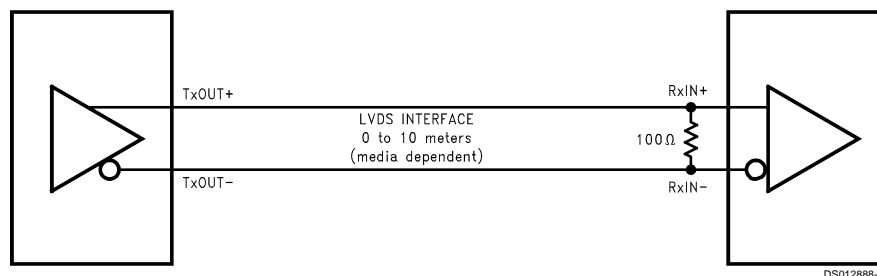

FIGURE 18. LVDS Serialized Link Termination
**TERMINATION:** Use of current mode drivers requires a terminating resistor across the receiver inputs. The CHANNEL LINK chipset will normally require a single 100Ω resistor between the true and complement lines on each differential pair of the receiver input. The actual value of the termination resistor should be selected to match the differential mode characteristic impedance (90Ω to 120Ω typical) of the cable. *Figure 18* shows an example. No additional pull-up or pull-down resistors are necessary as with some other differential technologies such as PECL. Surface mount resistors are recommended to avoid the additional inductance that accompanies leaded resistors. These resistors should be placed as close as possible to the receiver input pins to reduce stubs and effectively terminate the differential lines.